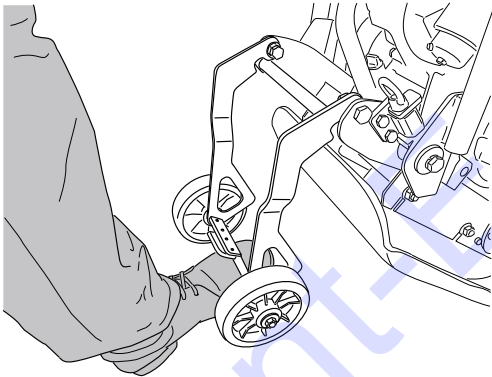

Figure 14. Pulling Wheel kit
2. Pull the wheel kit to the rear, then release the plate compactor to the ground (Figure 14).